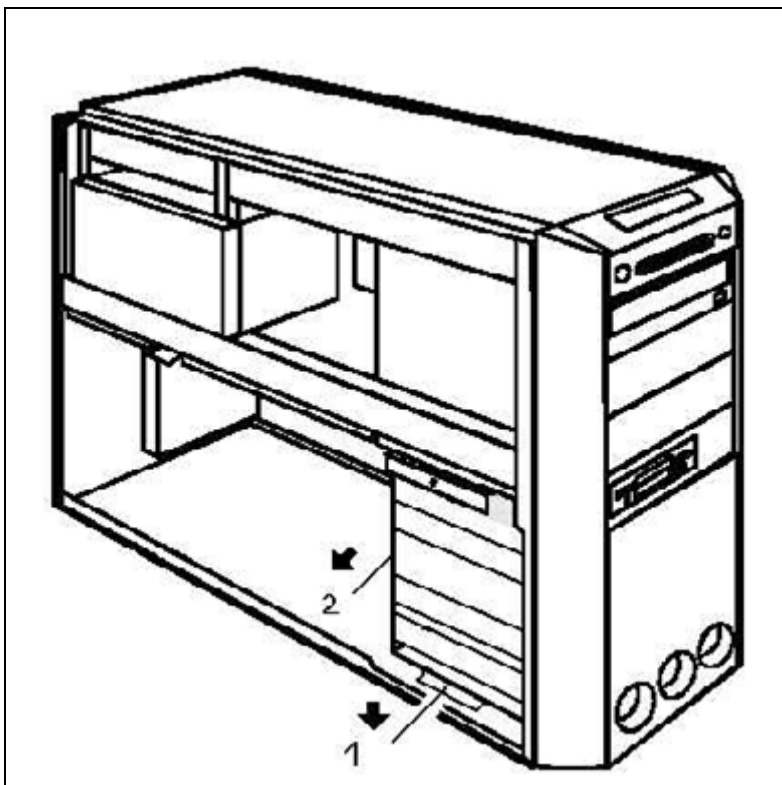

Fig. 58: Replacing a PCI board_2
6. Press the locking bar (1/Fig. 58 / p. 104) down and pull the hard drive casing (2/Fig. 58 / p. 104) out of the PC.